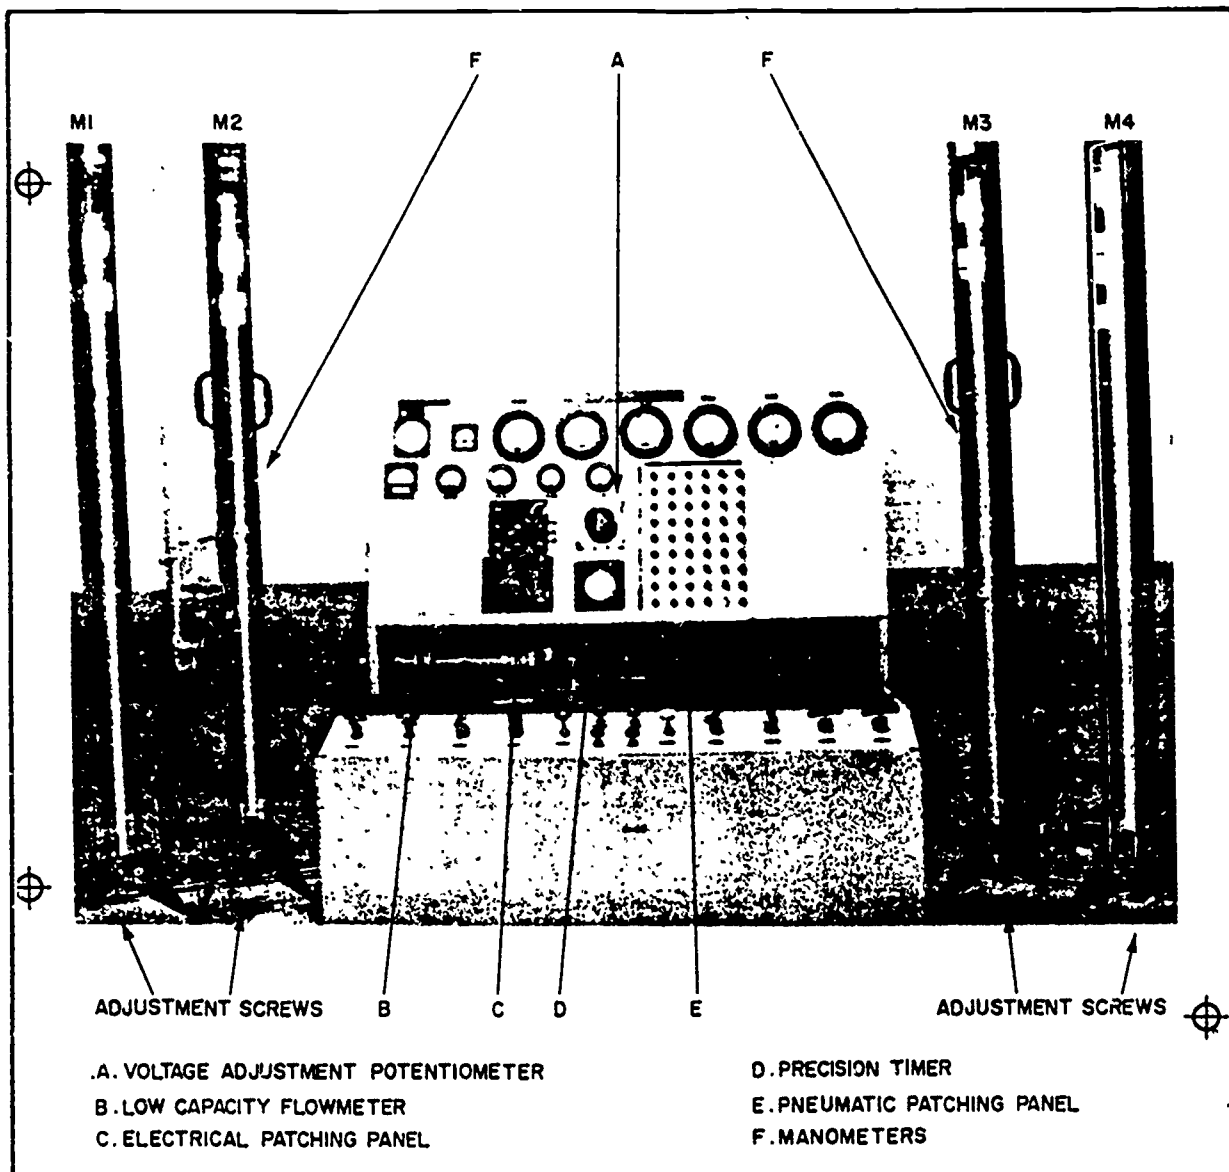

Figure 1. Trainer No. 3038 - Electric Pneumatic Tester.
1. Use figure 1 to familiarize yourself with the trainer by locating the listed parts. You will be using the trainer to bench check the airflow regulator.
a. Voltage adjustment potentiometer (A). This is used to adjust the DC voltage on the trainer.
b. Low capacity orifice flowmeter (B). An orifice is put in this portion of the tester so that a differential pressure may be kept at the manometers.